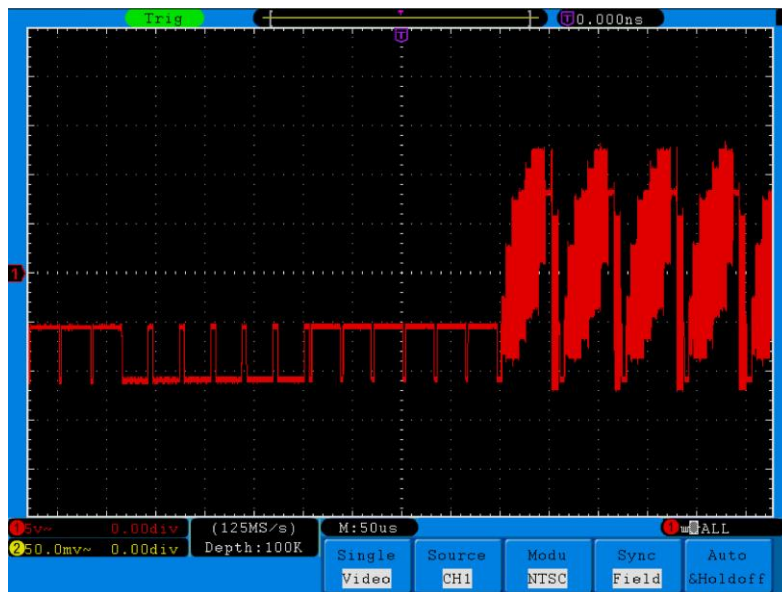

Fig. 85 Waveform Obtained from Video Field Trigger
11. Turn the **VOLTS/DIV**, **VERTICAL POSITION** and **SEC/DIV** knobs to obtain a proper waveform display (see **Fig. 85**).